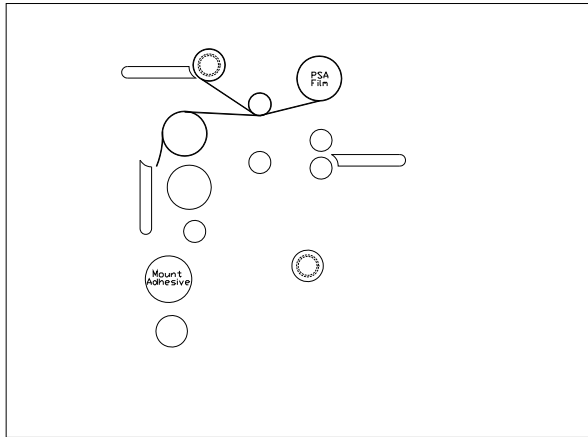

FIGURE 24
2. Load the rolls of film as illustrated in (Fig. 24). Ensure no brake tension is applied to the film shafts.
5. Make two full wraps around the rewind tube, and then score the laminate without cutting the release liner. Pull the laminate down allowing it to drape over the upper roller (Fig. 24).